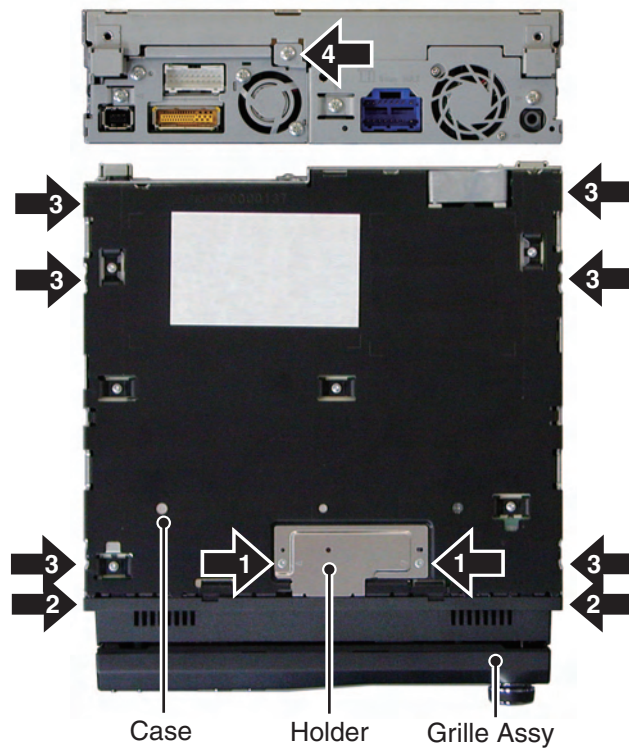

Fig.1
## ● Removing the Grille Assy (Fig.1)
- ➡ **3** Remove the six screws.(Fig.1)
- ➡ **4** Remove the screw and then remove the Case.(Fig.1)
Remove the Case.(Fig.1)